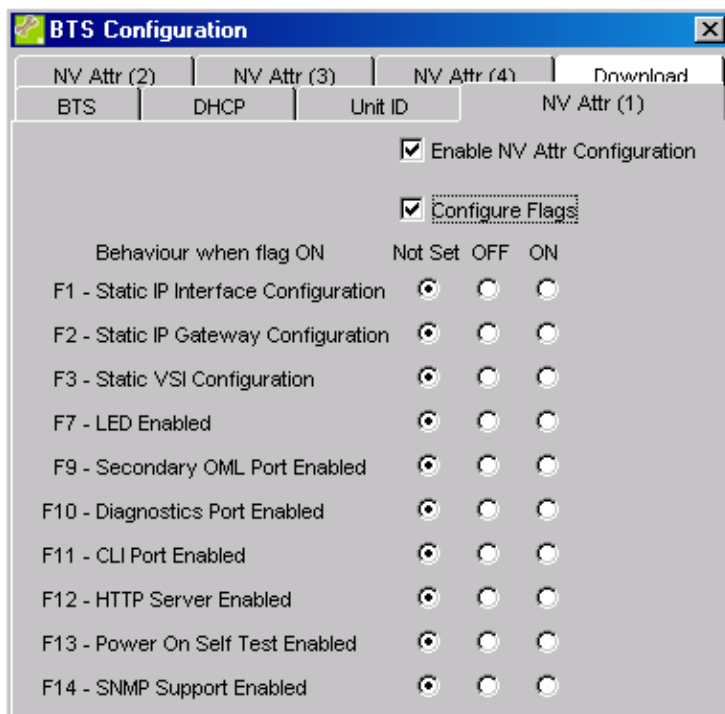

Figure 50 - NV Attr (1) tab
6.7.9 The NV Attr (1) tab
The NV Attr (1) tab, Figure 50, enables or disables the entire non-volatile attribute setting configuration phase and contains the settings for the Non-volatile Configuration Flags.